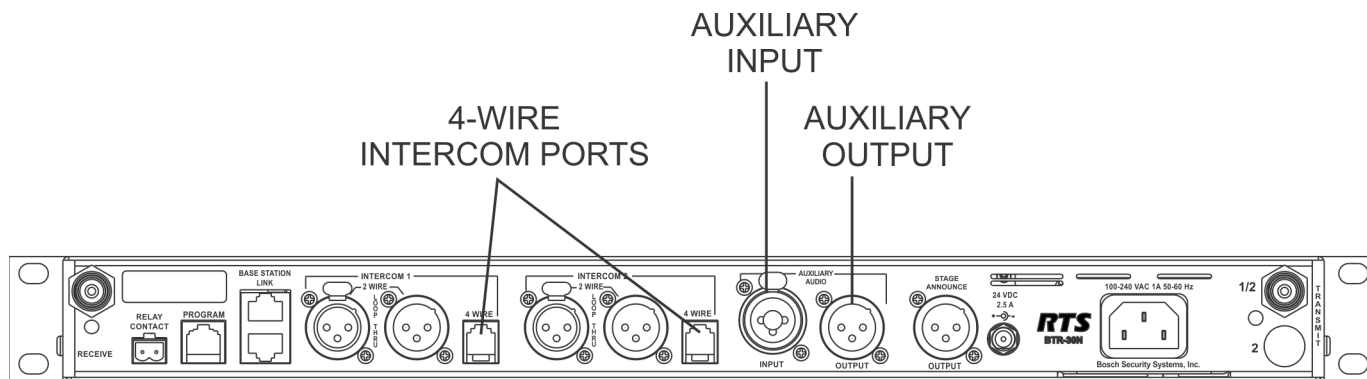
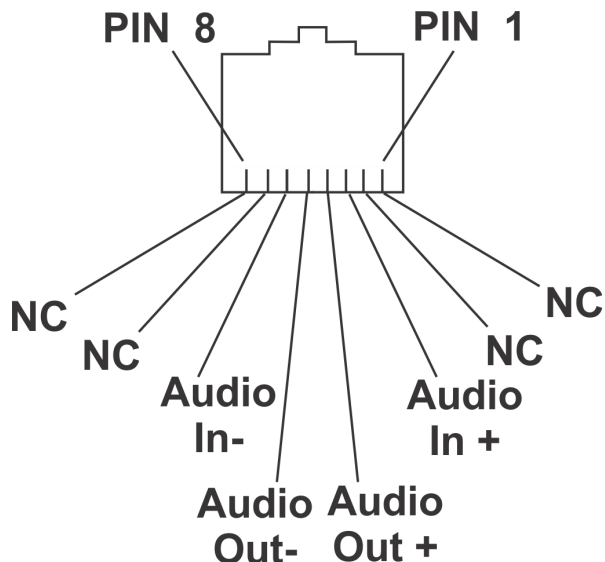

FIGURE 22. BTR-30N Rear View
FIGURE 23. Pinout of the 4-Wire Jack
The BTR-30N can connect to two (2) 4-wire audio intercom systems. These 8-pin modular jacks (RJ-45) are designated 4-wire under intercom 1 and 2 titles on the rear panel. (See Figure 22). The jack’s pinout is shown in Figure 23.